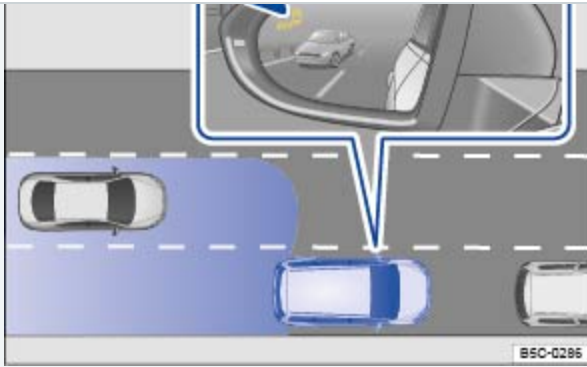
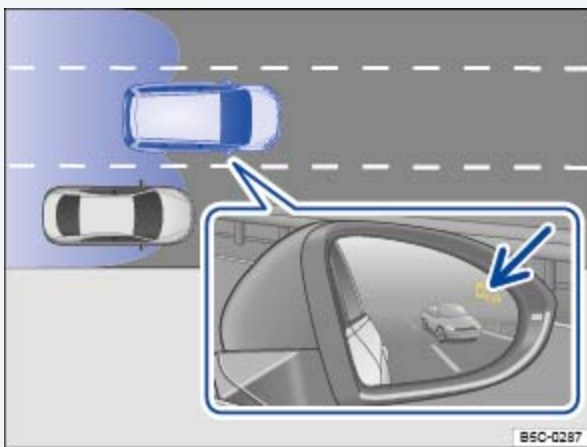

Fig. 183 Driving situation when passing with traffic behind your vehicle. Arrow: Blind Spot Monitor indicator light in the driver side mirror.
Fig. 184 Driving situation when passing and merging into the lane. Arrow: Blind Spot Monitor indicator light in the passenger side mirror.
The following situations result in a signal in the outside mirror ⇒ Fig. 183 (arrow) or ⇒ Fig. 184 (arrow).
- If your vehicle is being passed by another vehicle ⇒ Fig. 183.
- When passing another vehicle ⇒ Fig. 184, and the difference in speed between the two vehicles is no more than about 6 mph (10 km/h). There is no signal if the passing speed is clearly faster.